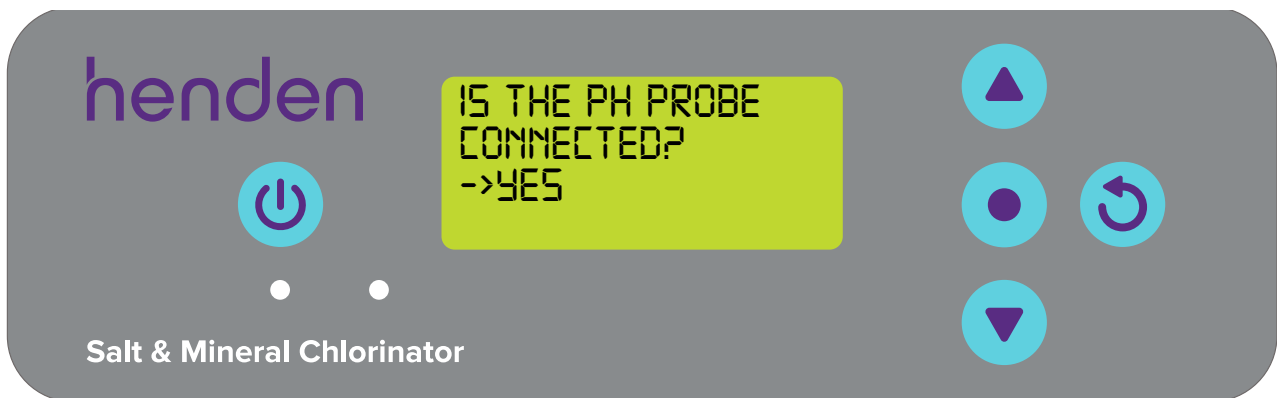

Figure 8.6
- Press the  **menu/setting select** button. The next screen ask “is the pH probe connected?” (Refer Figure 8.6);